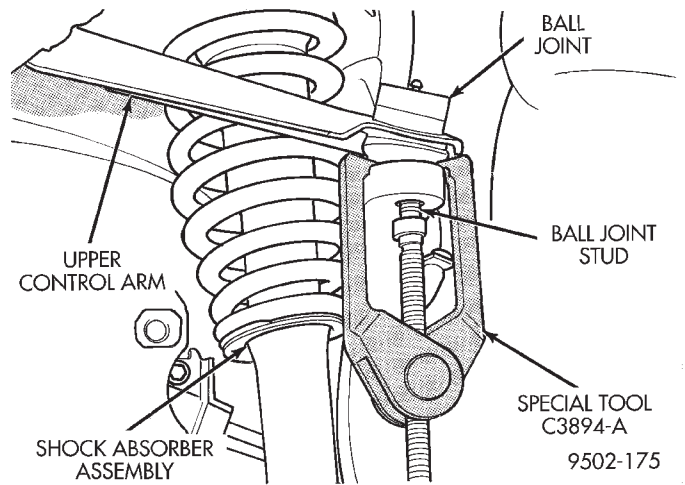

Fig. 51 Ball Joint Stud Removal From Steering Knuckle
(17) Remove the upper ball joint stud from the steering knuckle using Puller, Special Tool, C-3894-A (Fig. 51).
(18) Remove steering knuckle from vehicle.